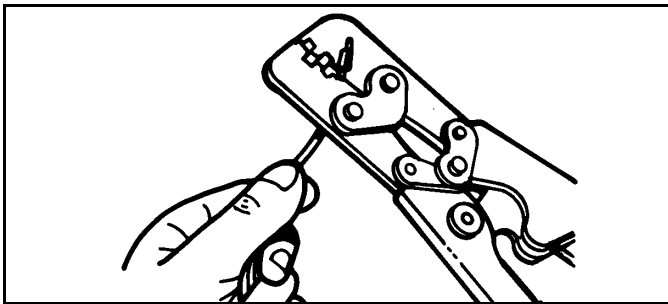

Figure 3-8
3. Strip insulation from wire to expose 6mm (1/4 in) and align cable seal with edge of insulation (See Figure 3-8).